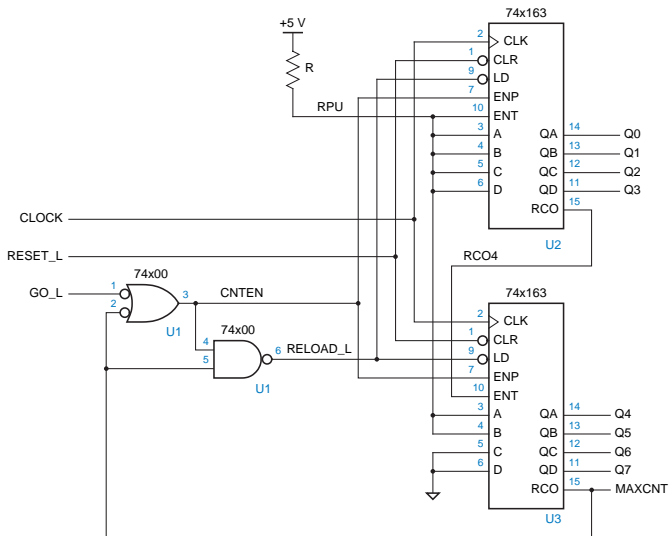

Figure 33: Using 74x163s as a modulo-193 counter with the counting sequence 63, 64, ..., 255, 63, 64,
- Fig. 33
- Therefore, in Fig. 33, low-order counter's ENT input is always asserted, its RCO output is connected to high-order ENT input, and MAXCNT detects state 255 even if CNTEN is not asserted